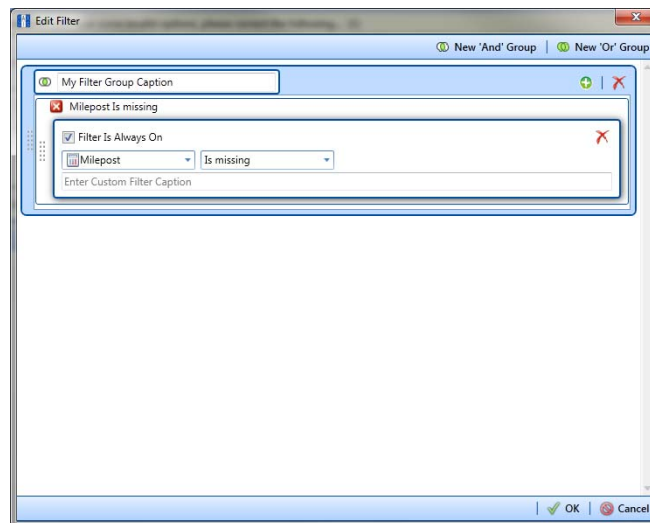

Figure 10-32. New 'And' Filter Group
- a Click  **New 'And' Group** to open the filter properties group box (Figure 10-32).